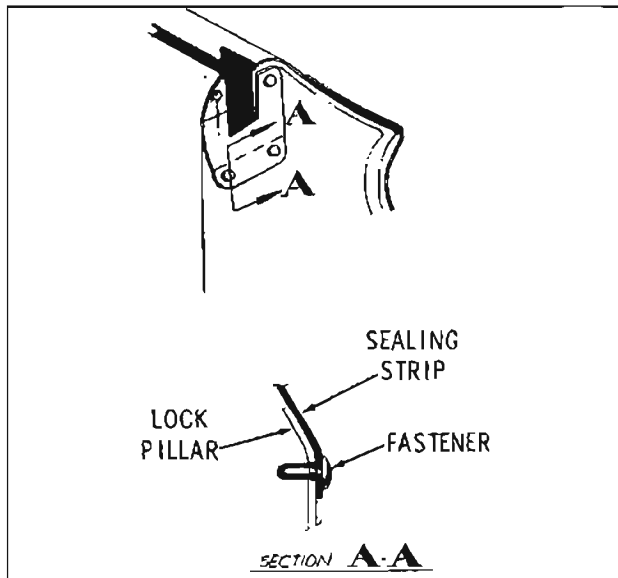

Fig. 16-23 Lock Pillar Sealing Strip
1. Remove snap fasteners securing sealing strip to lock pillar facing of front door and remove strip assembly. (Fig. 16-23)